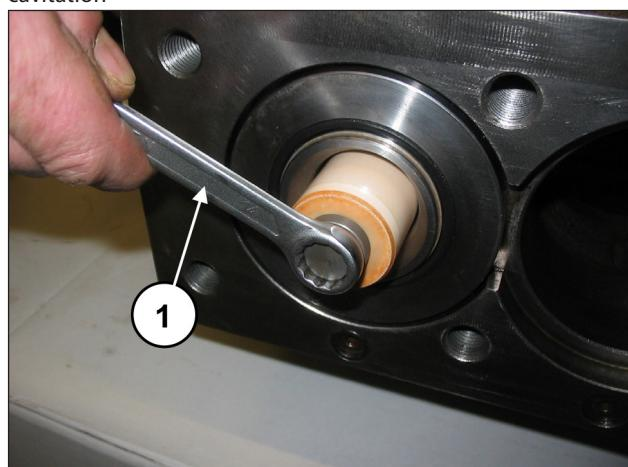

Fig. 138
Disassemble the pistons by unscrewing the fixing screws (pos. ①, Fig. 138).